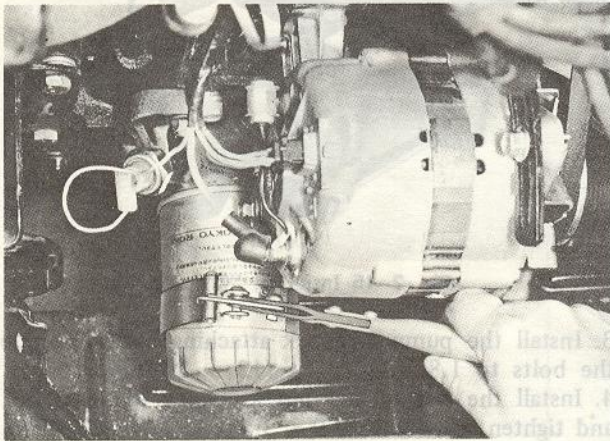

Fig. 2-17 Removing oil filter
1. Remove the oil filter cartridge with the oil filter wrench (49 0223 195), as shown in Fig. 2-17.